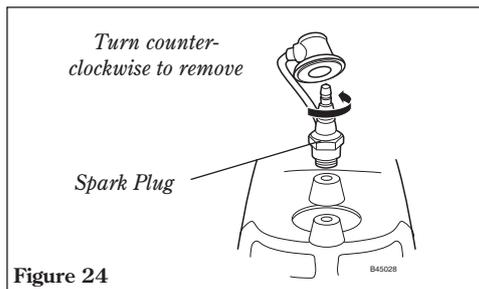

Figure 24
2. Disconnect the spark plug wire, and remove the spark plug. See Figure 24.